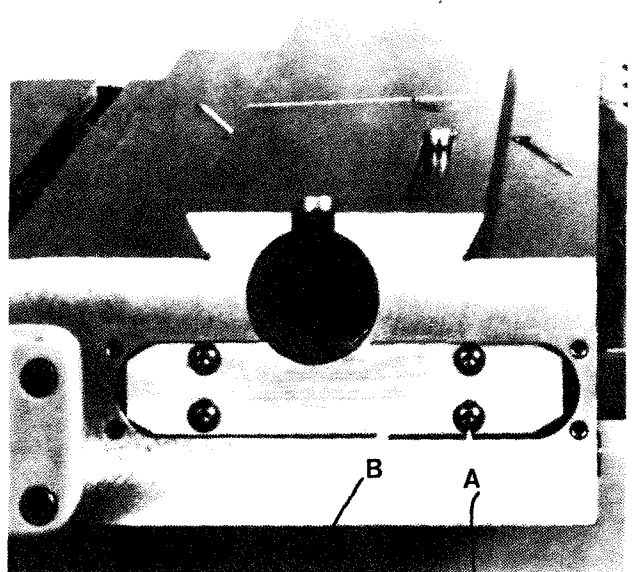

Figure 1.29 - Carriage Lubricator Junction Block
10. Remove four screws "A" and lubricator junction block "B", Figure 1.29, to gain access to the four oil tube assemblies.
12. Remount lubricator junction block "B" using four screws "A", Figure 1.29 .